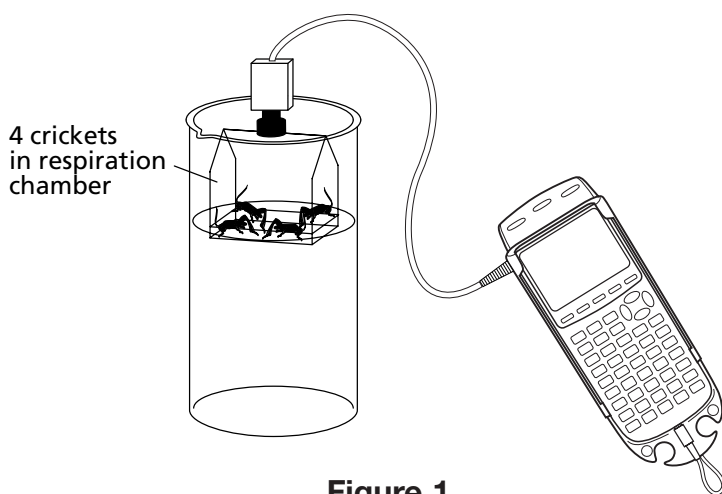

Figure 1
7. Carefully put the carbon dioxide probe into the top of the respiration chamber. Twist the stopper slightly to seat it in the opening. Be careful not to twist the shaft of the sensor. Place the respiration chamber in the water bath as shown in Figure 1. This setup will keep the animals at a constant temperature throughout the lab.